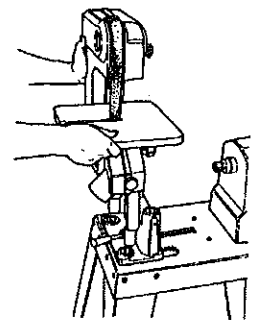

Fig.E-1
4. Placing your hands on the table and on the middle of the Strip Sander frame, lift it into the short holes in the Power Station carriage, with the drive shaft pointed toward the Power Station headstock. See Fig.E-1. You may need to adjust the Strip Sander's tubes to fit them in the tube holes.